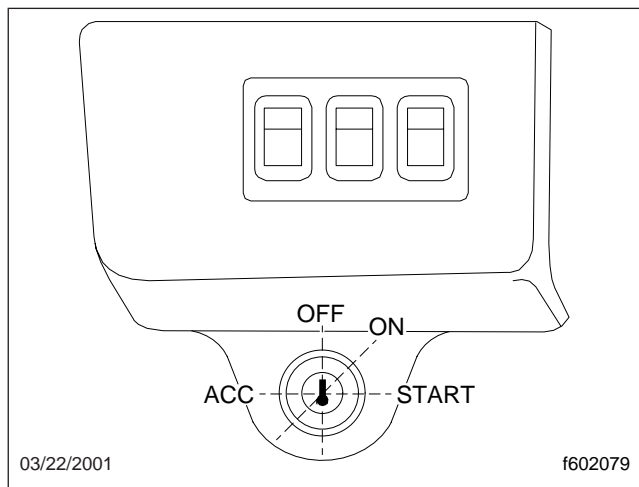

Fig. 7.6, Ignition Switch Positions
1. Turn the ignition switch to the on position (Fig. 7.6). All the electronic gauges on the ICU (instrumentation control unit) complete a full sweep of their dials, the warning and indicator lights light up, and the buzzer sounds for three seconds.
Turn the ignition switch to the on position (**Fig. 7.6**).
The intake air preheater is activated by turning the ignition switch to the on position (Fig. 7.6). If the engine is at normal temperature, the INTAKE HEATER indicator goes out after two seconds.